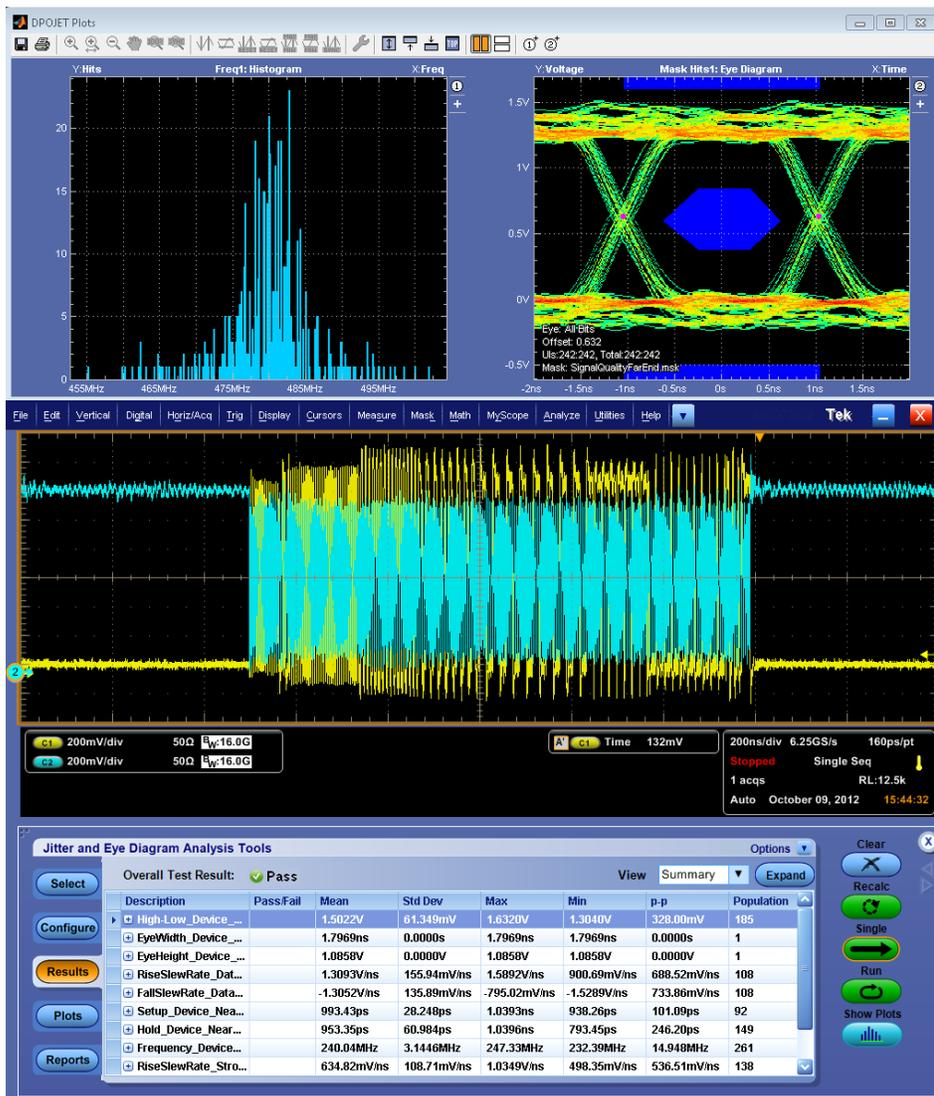

Figure 5 Device Signal Quality Measurement Result
6. DPOJET automatically selects the limit file based on the test point. The Pass/Fail status is shown in the DPOJET Results tab. Refer to Figure 5. The limits are shown in Table 4 below.